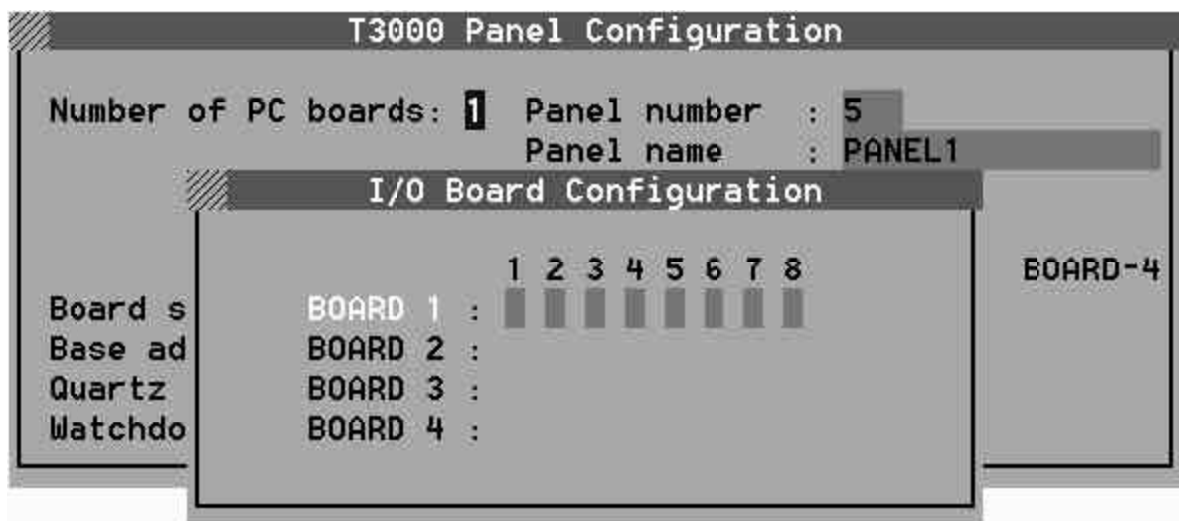

Figure 22: T3000 Controller I/O ports configuration window.
- ✓ Go to “Configuration”, “Hardware”, “Panel Configuration” select “PC number of I/O boards: ” field and press enter. A pop up window appears. Figure 22 shows the resulting screen.